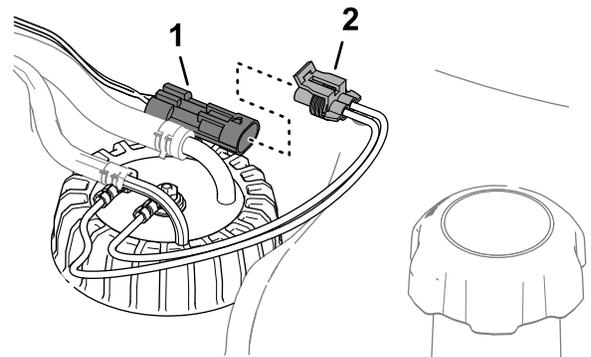

Figure 98
6. Plug the connector of the fuel-sender harness into the connector of the machine wire harness (Figure 98).